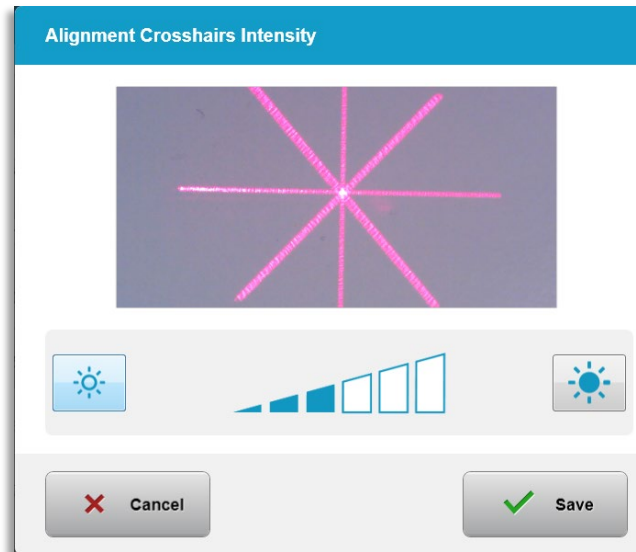

Figure 3-55. Alignment Crosshairs Intensity
- Select “Alignment Crosshairs Intensity” from the System Settings menu to alter the brightness of the alignment crosshairs. The screen shown in Figure 3-55 will appear.